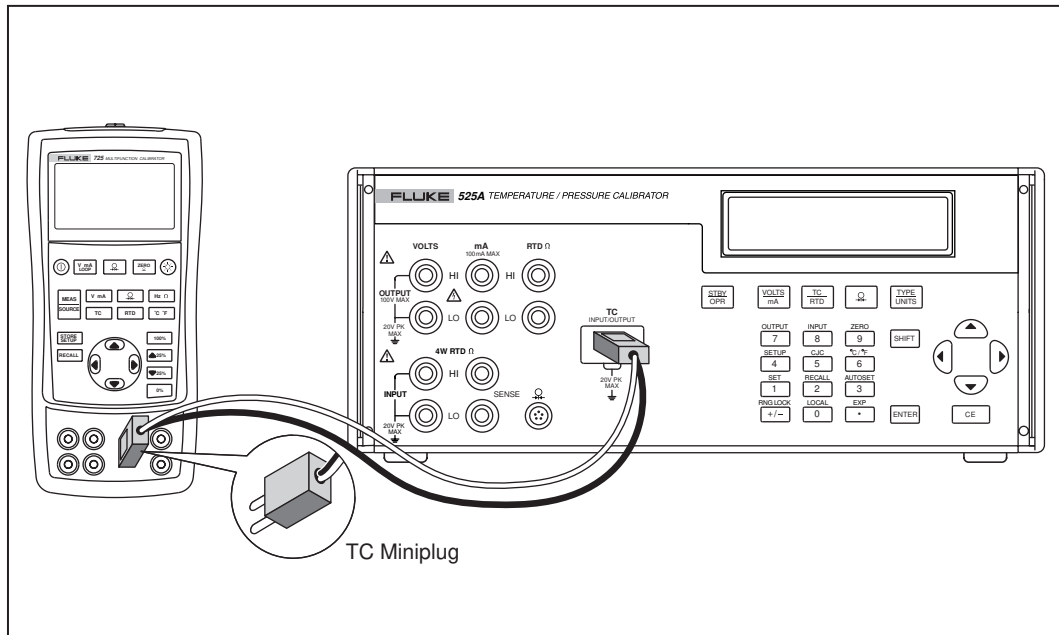

Figure 3-2. Measuring Temperature with a Thermocouple
1. Attach the thermocouple leads to the TC input/output connector as shown in Figure 3-2. One pin is wider than the other. Do not attempt to force the plug in the wrong polarization.